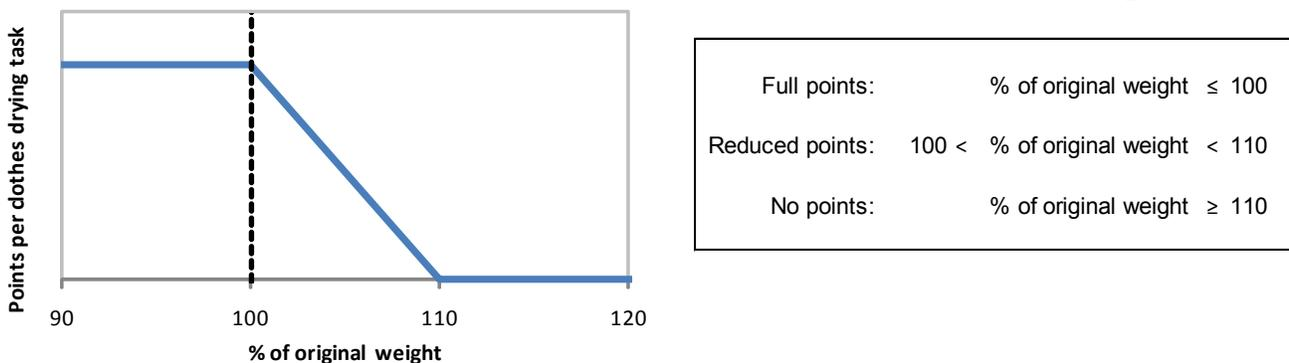

Figure 8: Scoring function for the Clothes Dryer Subcontest
- a. Reduced points are earned if the “dry” towel weight is between 100.0% and 110.0% of the original towel weight. Reduced point values are scaled linearly, as shown in Figure 8.